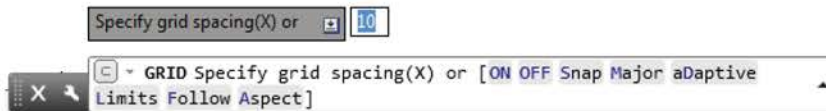

Fig. 1.23 Setting Grids to 10
1. At the keyboard, *enter* (type) **grid** followed by a *right-click* (or pressing the **Enter** key). Then *enter* **10** in response to the prompt that appears, followed by a *right-click* (Fig. 1.23).